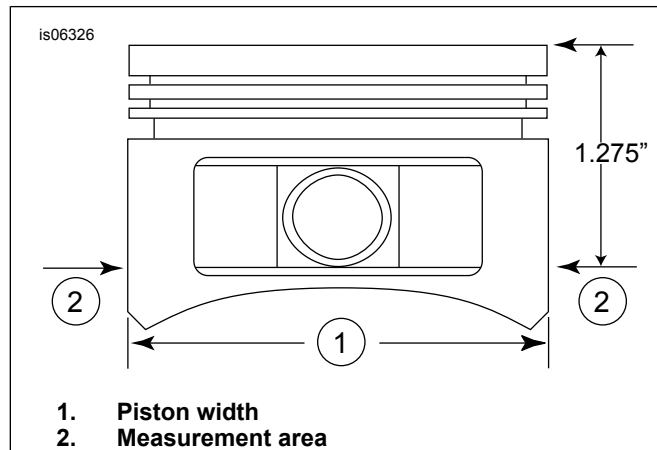

Figure 2. Piston Measurements
- Figure 2 Measure the piston width (1), 90 degrees horizontally from both sides of the piston pin hole and 32 mm (1.275 in) down from the deck (top) surface of the piston (2). See Table 11 for piston-to-cylinder fit at this location.